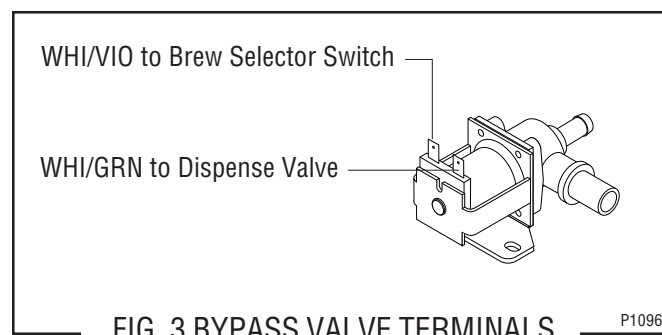

FIG. 3 BYPASS VALVE TERMINALS
7. Refer to FIG. 3 when reconnecting the wires.